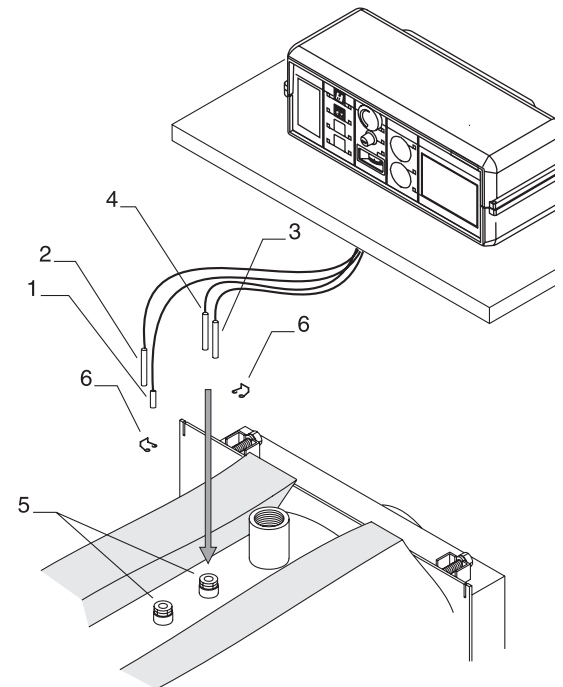

fig. 25
- E) Insert into the conduits the bulbs of the instruments as shown in Fig. 25 and wire the panel board to the power line, to the burner and to any pumps, etc.